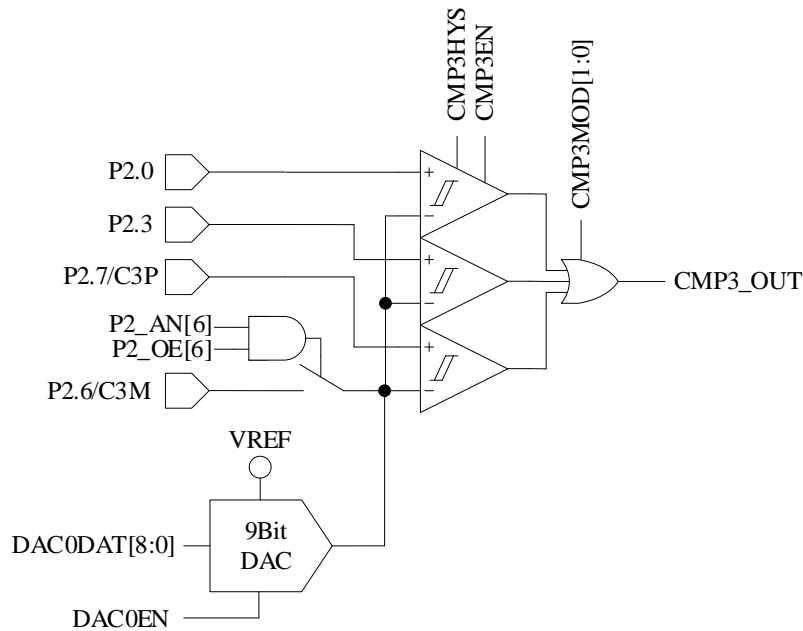

Figure 29-4 Triple-comparator Input Mode
- When CMP_CR1[CMP3MOD] = 1X, CMP3 works in Triple-comparator Input Mode. The connection of input and output pins are as shown in Figure 29-4.